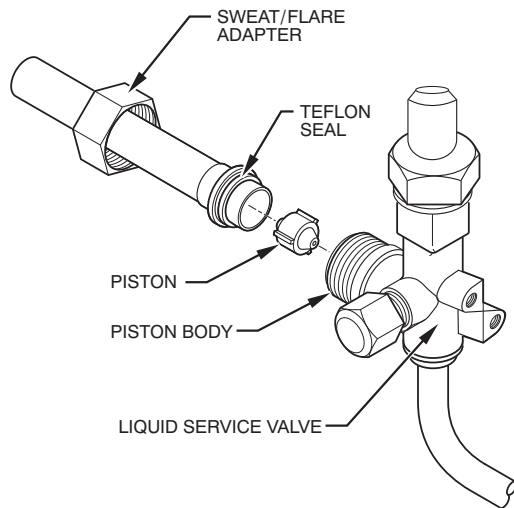

Fig. 3 – Liquid Service Valve
4. Remove Teflon® seal from bag and install on open end of liquid service valve (Fig. 3).